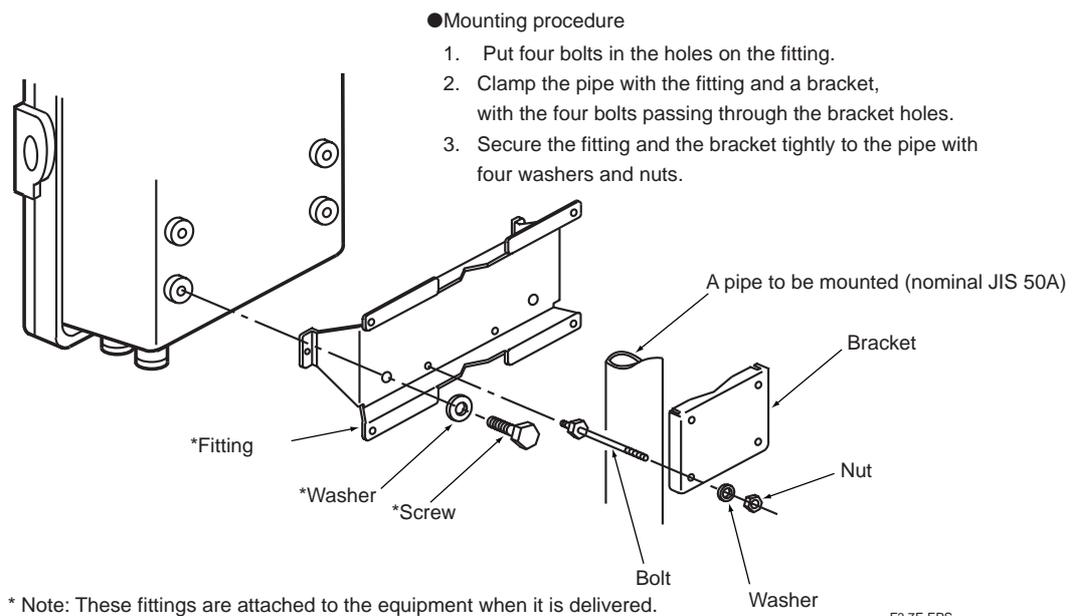

Figure 3.3 Pipe Mounting
- (1) Prepare a vertical pipe of sufficient strength (nominal JIS 50A: O.D. 60.5 mm) for mounting the converter. (Converter weighs approximately 6 kg.)
- (2) Mount the converter on the pipe. Fix it firmly on the pipe in the procedure described in Figure 3.3.